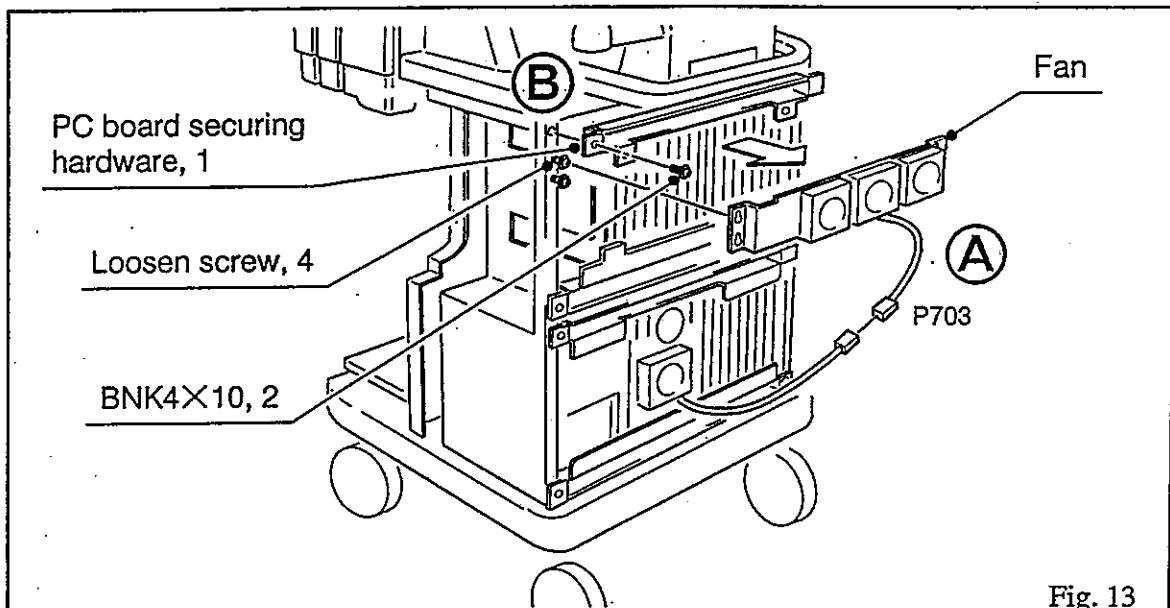

Fig. 13
(A in fig. 13)
- (14) Unfasten 2 screws and remove PC board securing hardware. (B in fig. 13)